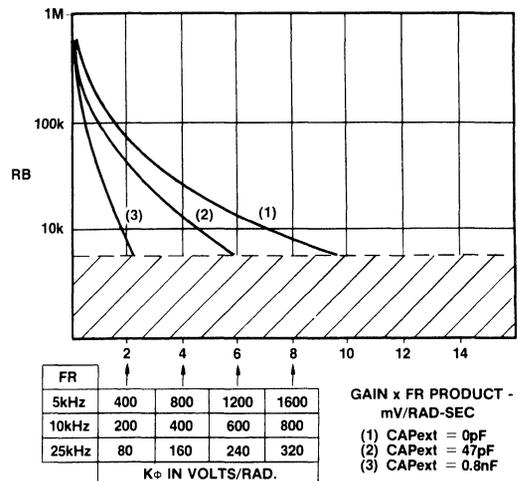

Fig.8 RB v. gain and reference frequency
RB and CAP should be chosen to give the required gain at the reference frequency used. Fig.8 shows that to achieve a gain of 380V per radian at 10kHz requires RB to be approximately 39kΩ, CAP is zero. A hold capacitor (CH) of non-critical value which might be typically 470pF is connected from CH to VSS. A smaller value is sufficient if the sideband performance required is not high.